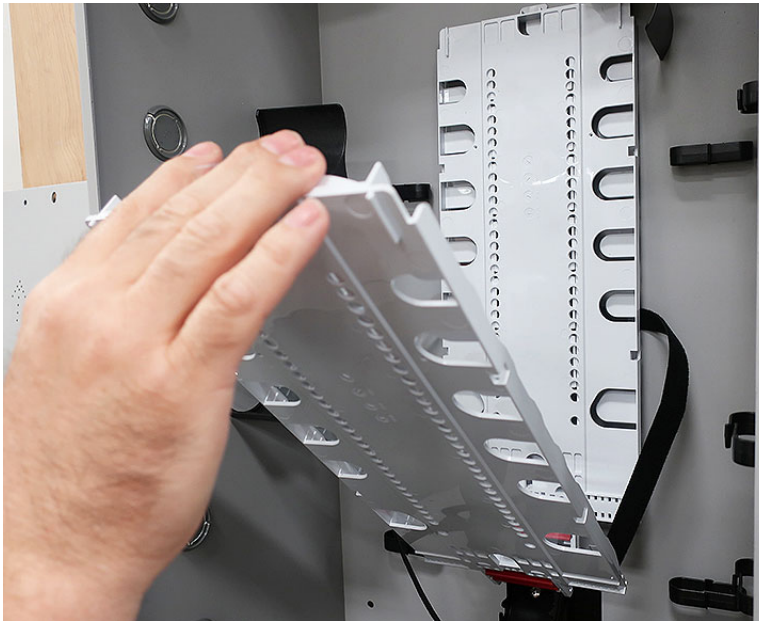

Figure 17. Installing the Second Splice Tray
3. Take the second splice tray and in a similar manner install it in the designated slot. Refer to Figure 17.